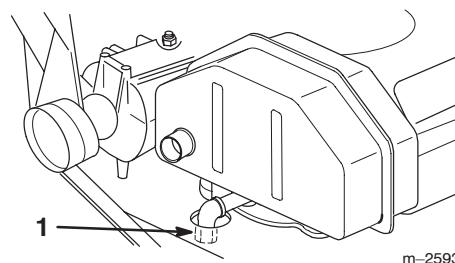

Figure 29
4. Place a pan below the oil drain (Fig. 29).
5. Remove the oil drain cap (Fig. 29).